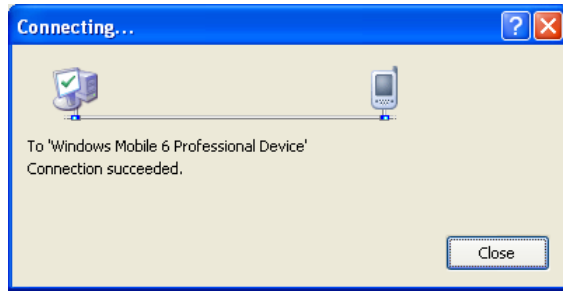

Figure 5.11
9. Choose **Windows Mobile 6 Professional Device** in the list of **Devices:** and click **Connect** button. The screen in Figure 5.11 if appear indicates the success of connection establishment.